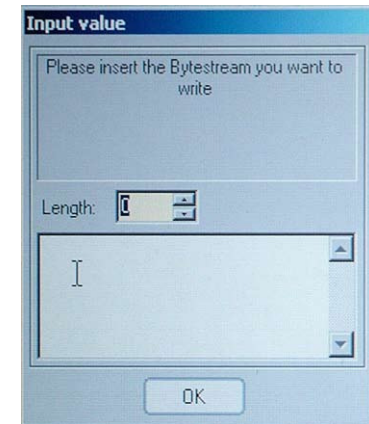

Fig.21
F) Write_Clutch_Murcielago: Permits entering the initial clutch value if the control unit is replaced (hexadecimal data read from channel 27). The entered data can be checked in the Lara-As file; if it is not correct, proceed with rewriting (Fig.21). If the control unit proves to be seriously damaged and this data can no longer be retrieved from the old control unit, a default is entered with a tolerance of $\pm 0 - 1\text{mm}$.